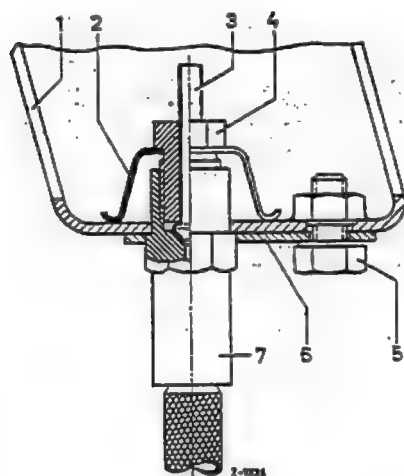

Fig. 33-1/9
21. Screw in and tighten the two hexagon screws (4) for fastening the engine support (3) to the rubber mountings of the front engine suspension. Then remove the supporting bracket for the engine.
27. Check the brake hoses (7) right and left and make sure that they fit tightly into the brake line on the brake anchor plate. Loosen the hexagon screw (5) on the retainer (1) and insert the brake hose in the protection plate (6) at the retainer (1). Take
care that the hose is not twisted. Now tighten the hexagon nut (5) on the retainer. Fit the brake hose retainer (2), screw the sleeve nut (4) of the brake line (3) into the brake hose and tighten, holding the brake hose steady (Fig. 33-1/9).